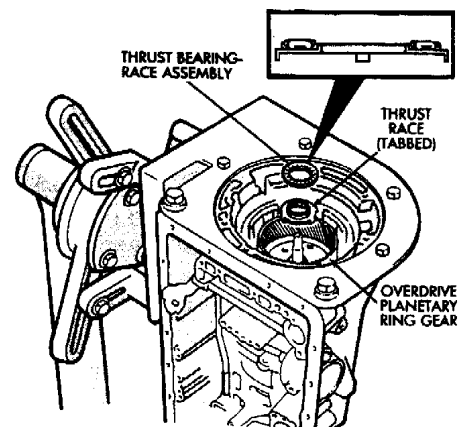

Fig. 47 Installing Ring Gear Thrust Bearing And Race
(58) Coat ring gear thrust race and thrust bearing assembly with petroleum jelly and install them in gear (Fig. 47).
(59) Verify bearing/race size before proceeding. Outer diameter of ring gear race-bearing is 47.8 mm (1.882 in); inside diameter is 24.2 mm (0.953 in). Outer diameter of bearing (61) is 46.8 mm (1.844 in); inside diameter is 26.0 mm (1.024 in).